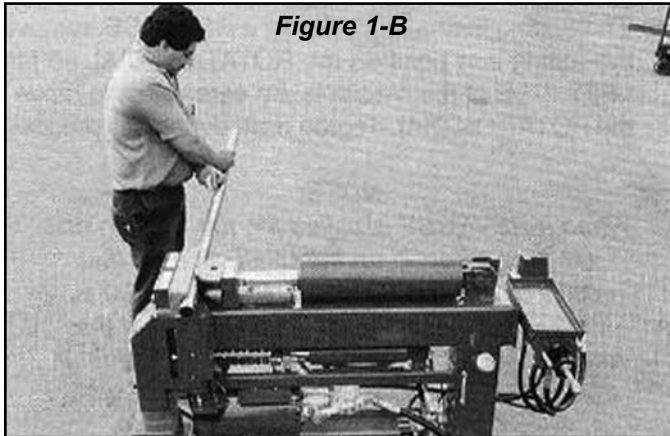

Figure 1-B
- Using the program card, refer to the section marked CENTER MARKS for the list of measurements in inches where the different bends will be made. Each CENTER MARK is measured from the left end of the tubing. Mark and number the CENTER MARKS on the tubing using a crayon or felt tip pen. The last mark you make should be the cut off point shown in the O/A LENGTH section. DO NOT CUT THE TUBING at the last center mark until the final bend is made. (See figure 1-B.)